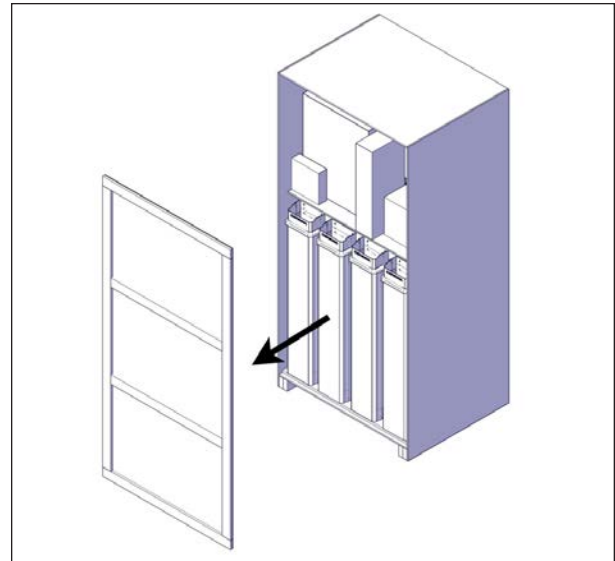

FIGURE 17: FRONT PANEL REMOVAL
5. Remove the front cover and discard, see Figure 17.